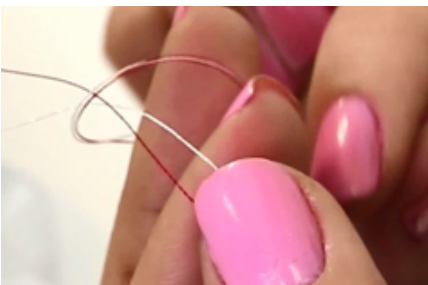

Figure 15
3. Take the loose end of the thread from the old spool and tie it to the loose end of the new spool with a tight knot. **See Figure 15.**